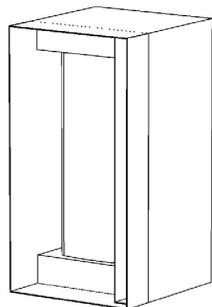

FIG.1
1. Put the carton box in vertical position. (FIG.1)